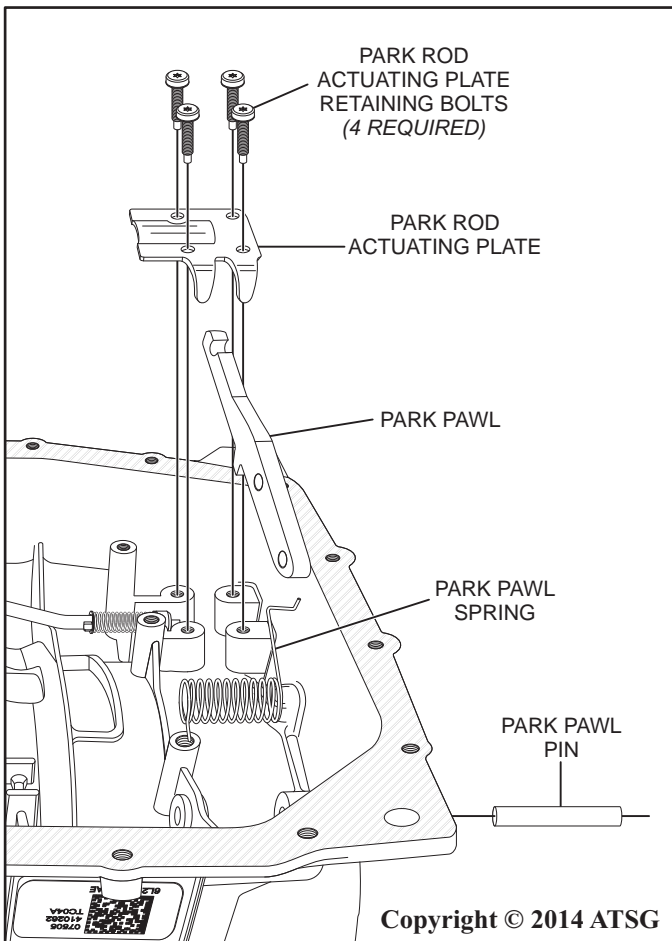

Figure 42
15. Remove the four park rod actuating plate retaining bolts and the park rod actuating plate as shown in Figure 42.
16. Remove the park pawl pin, the park pawl spring and the park pawl as shown in Figure 42.